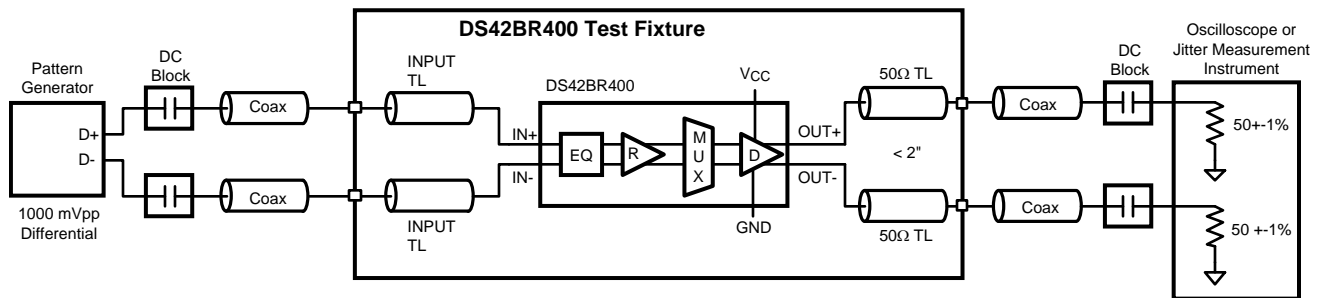

Figure 7. AC Test Circuit
The high speed inputs are self-biased to about 1.3V and are designed for AC coupling allowing the DS42BR400 to be directly inserted into the datapath without any limitation. The ideal AC coupling capacitor value is often based on the lowest frequency component embedded within the serial link. A typical AC coupling capacitor value ranges between 100 and 1000nF, some specifications with scrambled data may require a larger coupling capacitor for optimal performance. To reduce unwanted parasitics around and within the AC coupling capacitor, a body size of 0402 is recommended. Figure 7 shows the AC coupling capacitor placement in an AC test circuit.
(4) t_{SKO} is the magnitude difference in propagation delays between all data paths on one device. This is channel-to-channel skew. t_{SKPP} is the worst case difference in propagation delay across multiple devices on all channels and operating under identical conditions. For example, for two devices operating under the same conditions, t_{SKPP} is the magnitude difference between the shortest propagation delay measurement on one device to the longest propagation delay measurement on another device.
(5) Device output random jitter is a measurement of random jitter contributed by the device. It is derived by the equation $\text{SQRT}[(\text{RJ}_{\text{OUT}})^2 - (\text{RJ}_{\text{IN}})^2]$, where RJ_{OUT} is the total random jitter measured at the output of the device in ps(rms), RJ_{IN} is the random jitter of the pattern generator driving the device. Below 400 Mbps, system jitter and device jitter could not be separated. The 250 Mbps specification includes system random jitter. Please see Figure 7 for the AC test circuit.
(6) Device output deterministic jitter is a measurement of the deterministic jitter contribution from the device. It is derived by the equation (DJ_{OUT} - DJ_{IN}), where DJ_{OUT} is the total peak-to-peak deterministic jitter measured at the output of the device in ps(p-p). DJ_{IN} is the peak-to-peak deterministic jitter at the input of the test board. Please see Figure 7 for the AC test circuit.
(7) This parameter is specified by design and/or characterization and is not tested in production.